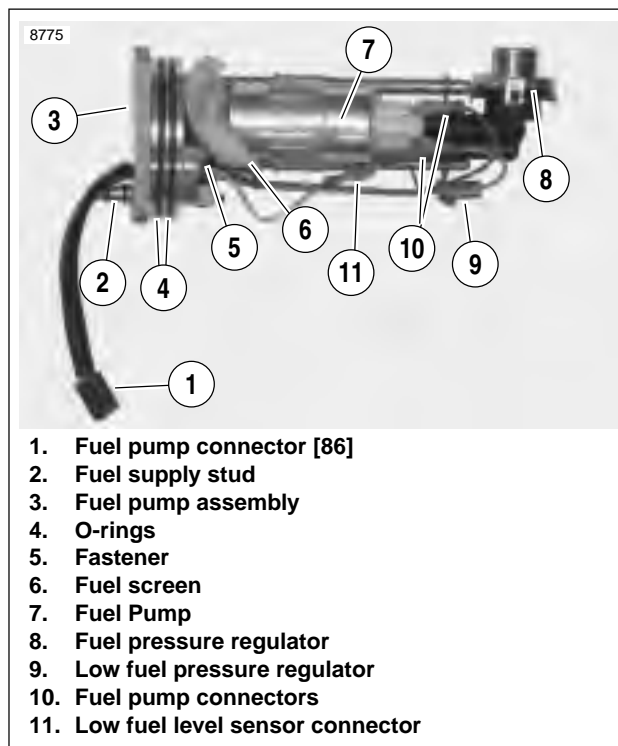
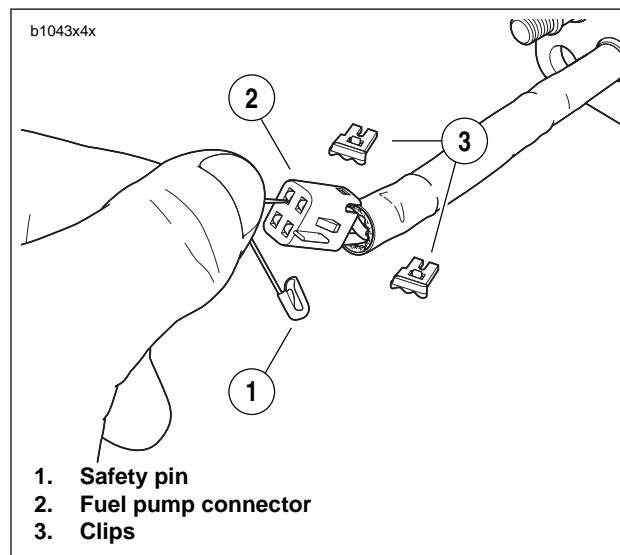

Figure 4-199. Fuel Pump Assembly (left side)
Figure 4-203. Fuel Pump Connector Disassembly
2. See Figure 4-199. Pry four tabs of clip holding fuel pressure regulator (8) in place. Detach regulator from regulator housing.
4. See Figure 4-199. Disconnect fuel pump connectors (10) and low fuel level sensor connector (11).
6. Pry fuel screen (6) from fuel pump (7).
11. See Figure 4-199. Connect low fuel level sensor wiring (11).
12. Connect fuel pump connectors (10). Connectors are two different sizes.
4. See Figure 4-199. Disconnect fuel pump connector (10) and low fuel level sensor connector (11).
- a. See Figure 4-203. Remove connector clips (3).
- b. Insert push pin/safety pin (1), into connector as shown.
8. See Figure 4-199. Remove screw (5).
11. See Figure 4-199. Insert **new** fastener (5), through ground wire terminal and secure to fuel pump assembly. Tighten to 18-22 **in-lbs** (2.0-2.5 Nm).
16. See Figure 4-199. Connect low fuel level sensor connector (11)..
17. Connect fuel pump connectors (10). Connectors are two different sizes.
1. See Figure 4-199. Replace o-rings (4). Lubricate **new** o-rings with **clean** engine oil.
2. Install **new** o-rings on fuel supply stud (2). Larger o-ring is located in groove closer to fuel pump.